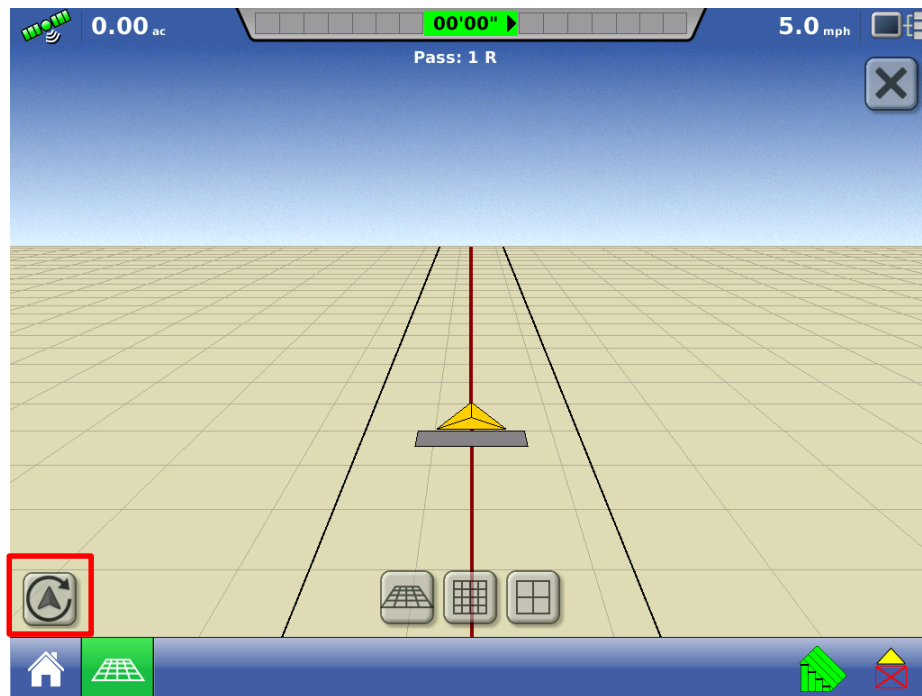

Figure 1 – Heading Change Button
- **NEW:** On screen heading button to change mapping between forward and reverse (Figure 1)